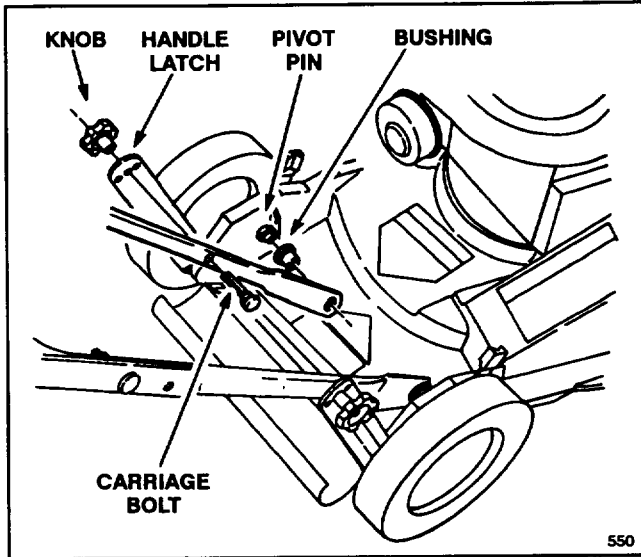

Figure 1
1. **LOWER HANDLE**—Push bushings through bottom holes of lower handle (Fig. 1).
2. Squeeze ends of lower handle together and install on pivot pins (Fig. 1).
3. Position handle latches (Fig. 1) so that holes in latches align with holes in handle.
4. Insert carriage bolts through holes in handle and handle latches. Install knobs on outside of handle and tighten securely (Fig. 1).